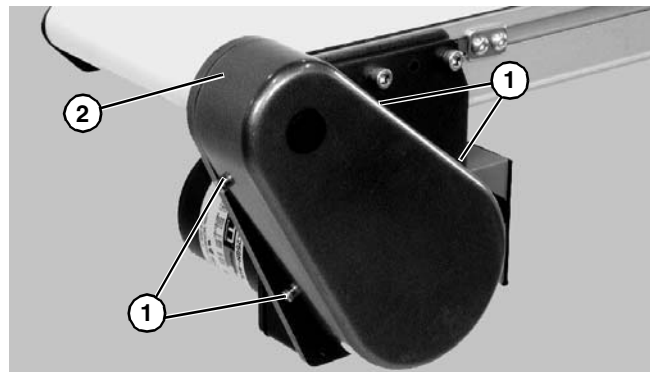

Figure 27
1. Remove four screws (**Figure 27, item 1**) and remove cover (**Figure 27, item 2**).